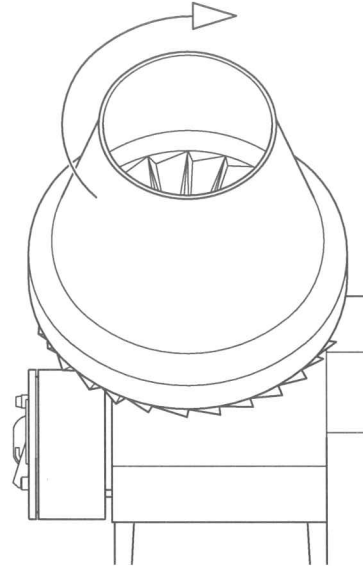

Figure 13 — Top view; connect wiring so that the feed hopper and inside bowl turn clockwise.
3. **Connect the wiring** so that the feed hopper and inside bowl turn clockwise (Figure 13).